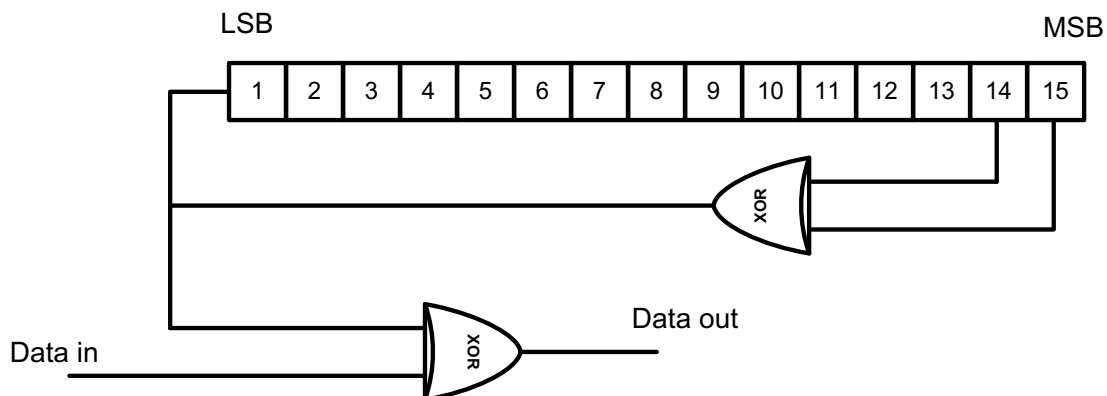

Figure 1: PRBS generator for Data randomization
- Using a linear feedback shift register (LFSR), design a pseudo random binary sequence (PRBS) generator that implements the polynomial $1 + X^{14} + X^{15}$ shown in Figure 1 which is used to randomize a sequence of binary inputs.